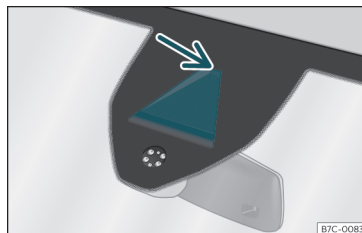

Fig. 222 On the windscreen: field of vision of the Lane Assist system.
- Regularly clean the area of vision of the camera and keep it in a clean state, without snow or ice >>> Fig. 222.